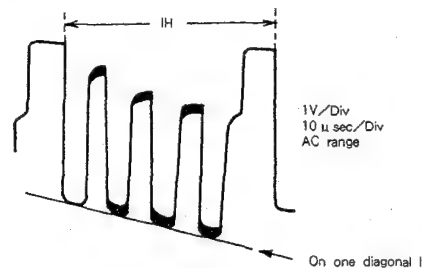

Fig. 2-5
- (1) Receive an NTSC 4.43 MHz color bar signal.
- (2) Connect an oscilloscope to TP47B.
- (3) Adjust SFR1 so the bottom edges of the waveform fall on one line. (See Figure 2-5)